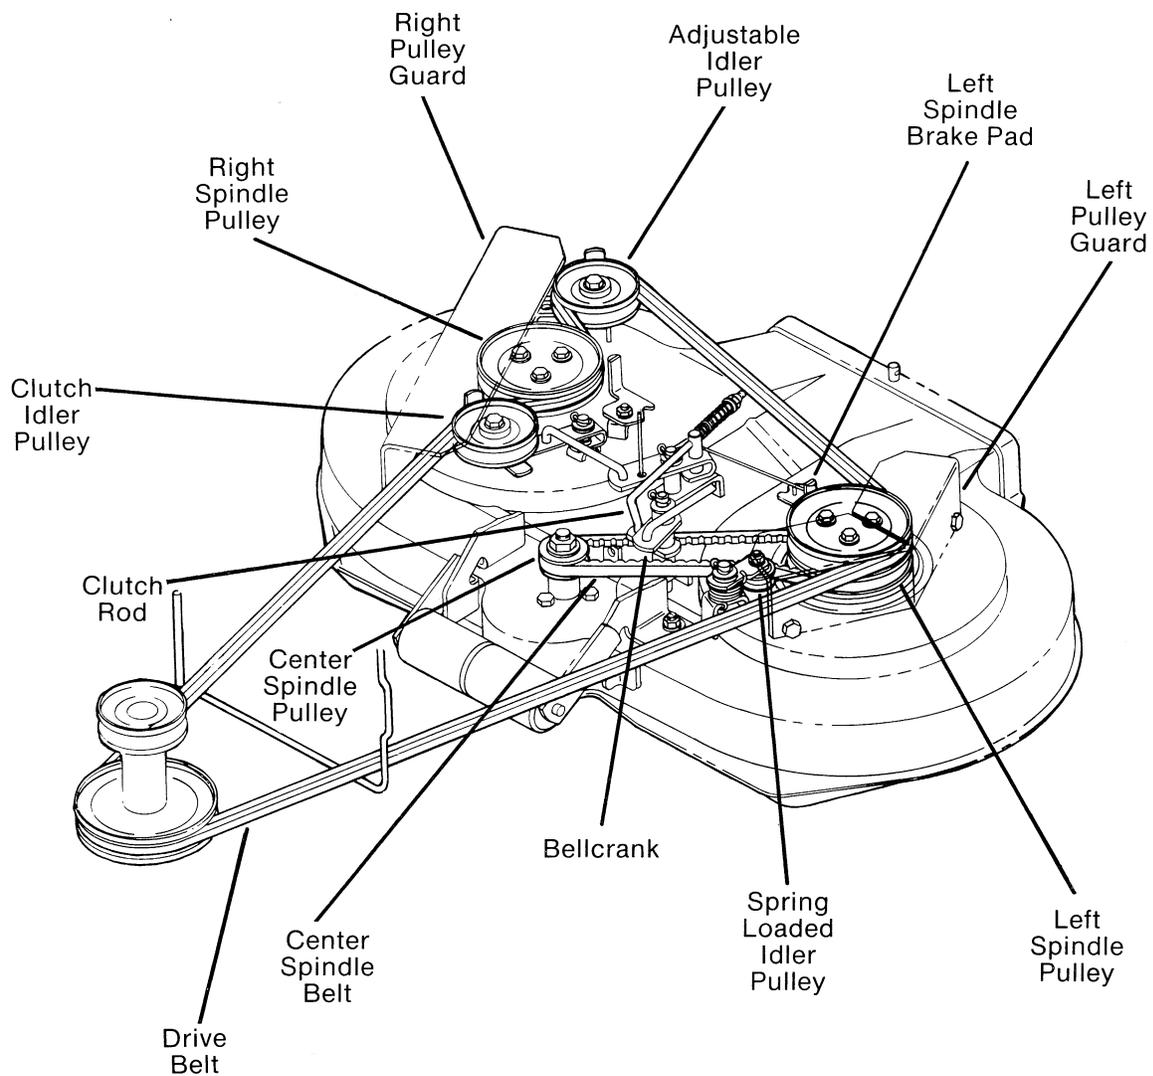

FIG. 17
- C. If belt still slips, remove right pulley guard (Fig. 17) and move the P.T.O. lever to the DISENGAGED (down) position.
- I. After all adjustments have been made be sure to replace right pulley guard. (Fig. 17)
- B. Remove right and left pulley guards. (Fig. 17)
- E. Remove locknut and capscrew holding clutch idler pulley to structure (Fig. 17 and 20) Work belt off, between idler pulley and belt retainer.
G. Remount clutch idler pulley and adjustable idler pulley to mower deck. (Fig. 17)
- Remove left pulley guard. (Fig. 17)
- Remove cotter pin or spring clip and washer attaching clutch rod to bellcrank. (Fig. 17) Disconnect clutch rod from bellcrank.
- Pull spring loaded idler pulley away from belt and work belt off of center spindle pulley. (Fig. 17)
- Pull drive belt away from upper groove in left spindle pulley. (Fig. 17)